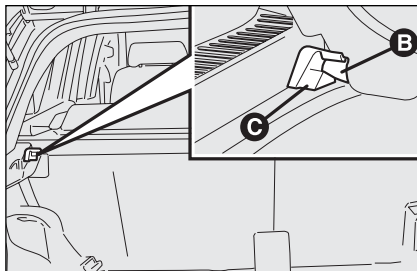

fig. 102
- release shelf pins **B**-fig. 102 from their housings **C** and remove it.